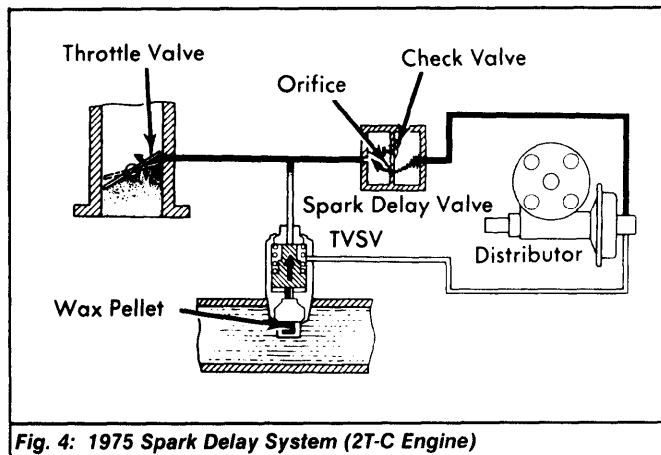

Fig. 4: 1975 Spark Delay System (2T-C Engine)
**1975-76 Models** - 1) Visually inspect vacuum hoses and ensure distributor vacuum unit is operating. With coolant temperature below 95°F (35°C), start engine and pinch off hose between distributor and spark delay valve. See Fig. 4.